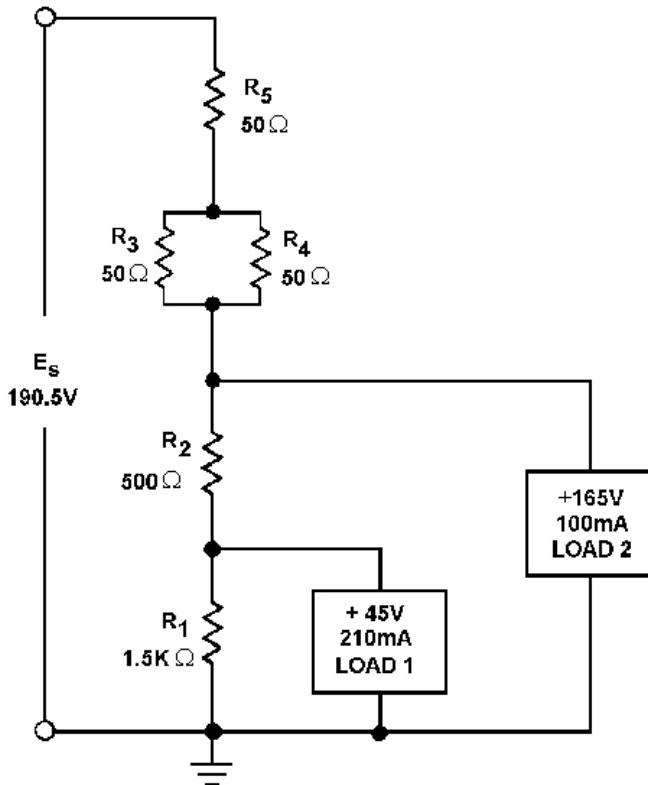

Figure 3-67.—Practical example of a voltage divider.
Once the values for the various divider resistors have been selected, you can compute the power used by each resistor using the methods previously explained. When the power used by each resistor is known, the wattage rating required of each resistor determines the physical size and type needed for the circuit. This circuit is shown in figure 3-67.
- Q53. In figure 3-67, why is the value of R_1 calculated first?*
- Q54. In figure 3-67, how is (a) the current through R_2 and (b) the voltage drop across R_2 computed?*
- Q55. In figure 3-67, what is the power dissipated in R_1 ?*
- Q56. In figure 3-67, what is the purpose of the series-parallel network R_3 , R_4 , and R_5 ?*
- Q57. In figure 3-67, what should be the minimum wattage ratings of R_3 and R_5 ?*